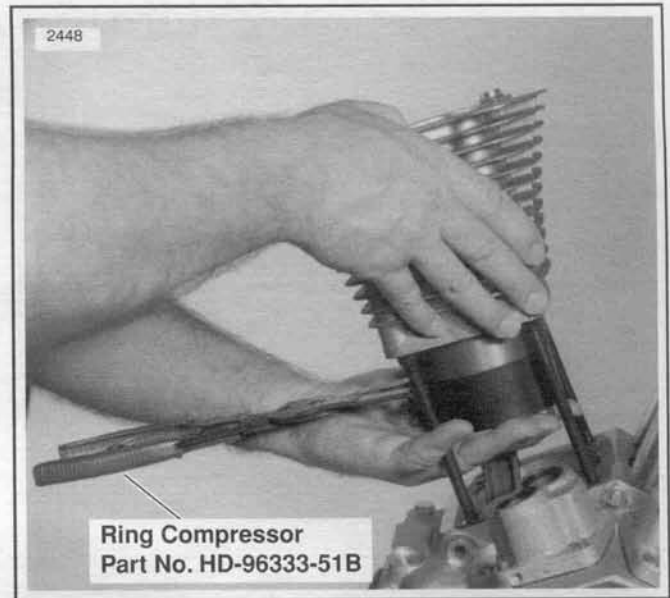

Figure 3-35. Slip Cylinder Over Piston
- See Figure 3-35. Compress the piston rings using PISTON RING COMPRESSOR, Part No. HD-96333-51B.